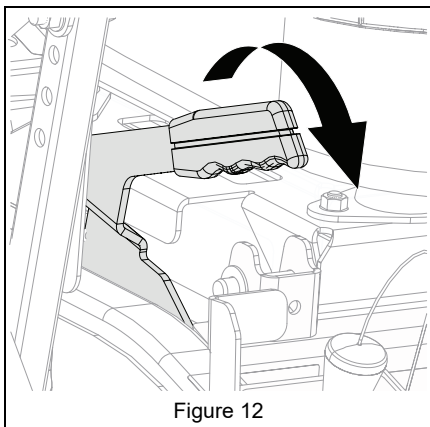

Figure 12
13. Release parking brake. See Figure 12.